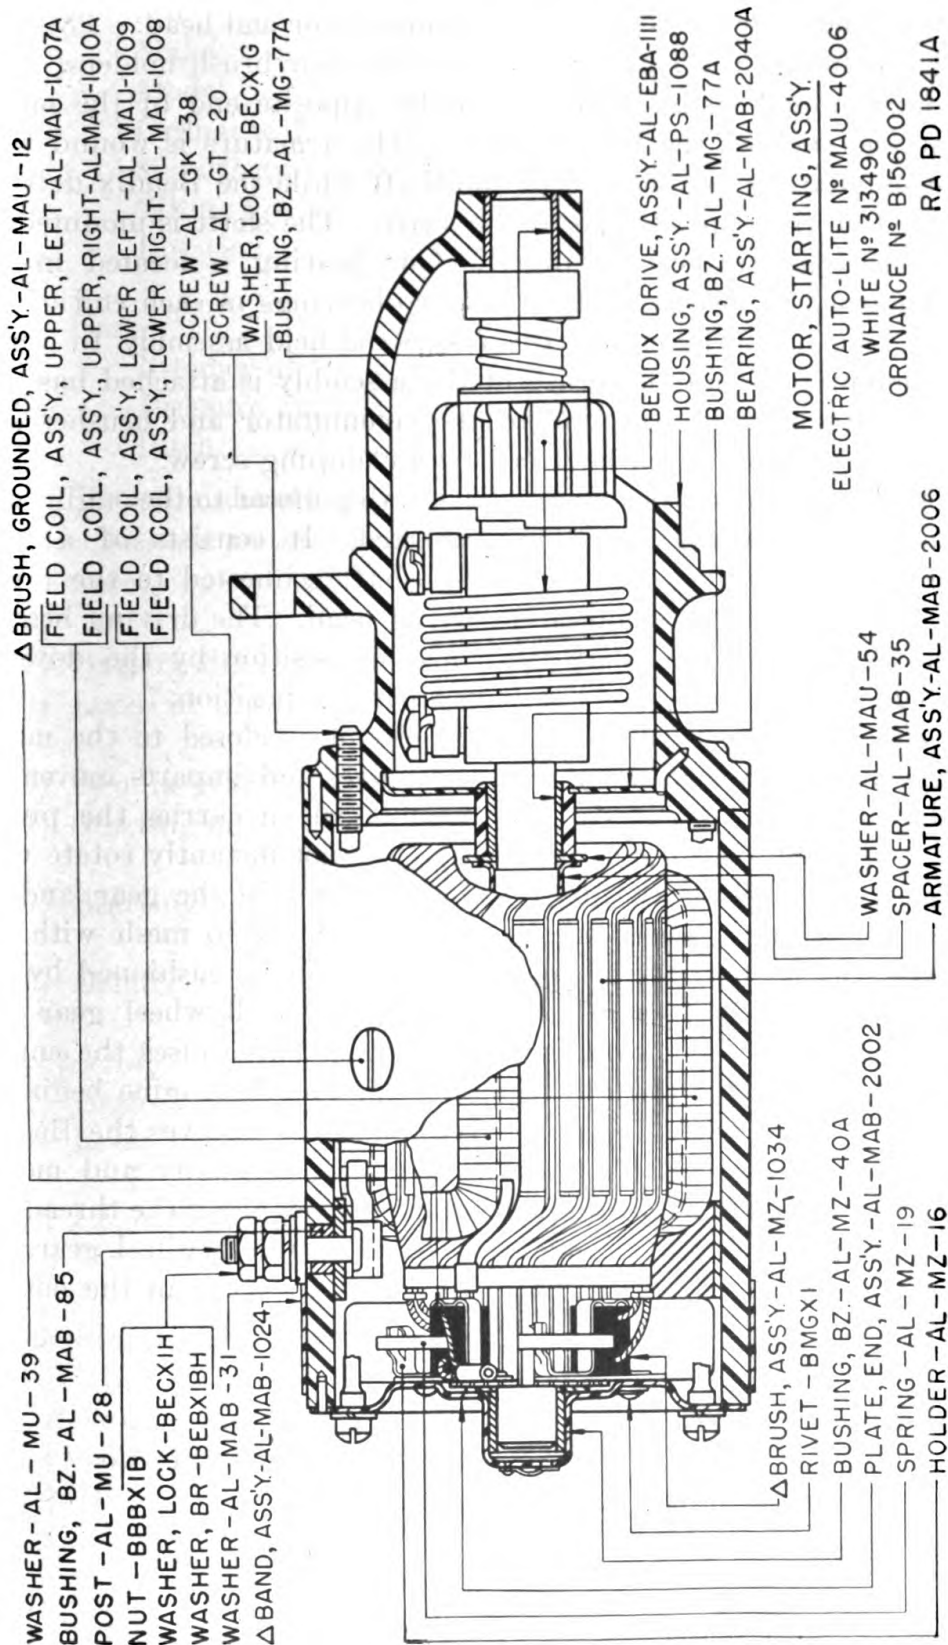

FIGURE 73.—Starting motor, sectionalized.
a. Construction (fig. 73).—(1) The motor consists of a frame-and-field assembly in the form of a hollow cylindrical section. The four pole pieces are mounted on the inside circumference of the frame and each is encircled by a field coil. The field coils are connected in series. The lead at one end of the coils is connected to an insulated terminal post which passes through the frame. The lead at the opposite end of the coils is connected to a brush which is mounted